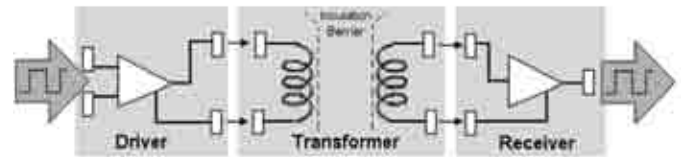

Figure 11. Induction Coupling-Based iCoupler Technology from Analog Devices
iCoupler technology is based on small, chip-scale transformers. An iCoupler has three main parts – a transmitter, transformer, and a receiver. The transmitter circuit uses edge trigger encoding and converts rising and falling edges on the digital lines to 1 ns pulses. These pulses are transmitted across the isolation barrier using the transformer and decoded on the other side by the receiver circuitry (see Figure 11). The small size of the transformers, about three-tenths of a millimeter, makes them practically impervious to external magnetic noise. iCouplers can also lower measurement hardware cost by integrating up to four isolated channels per integrated circuit (IC) and, compared to optocouplers, they require fewer external components.